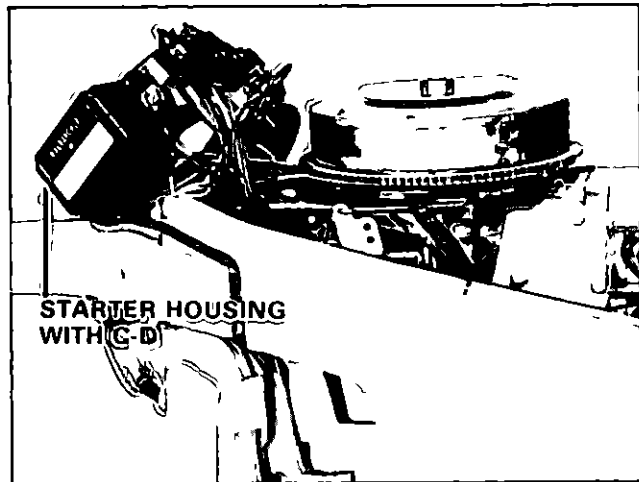

Figure 12. Removing Starter Housing.
- 3 Remove two (2) screws retaining starter, lay starter in support plate
- 4 Remove four (4) screws retaining starter housing, lift housing (w/C-D module and terminal block attached) up and to the front, Figure 12